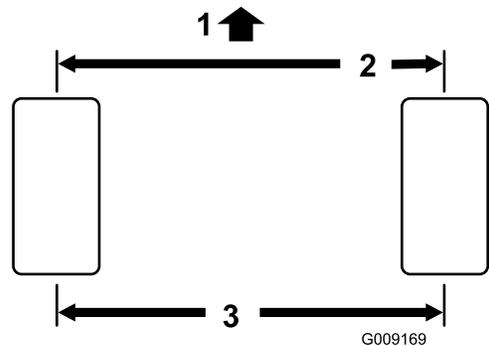

Figure 60
- Measure the center-to-center distance (at axle height) at the front and rear of the steering tires (Figure 60). The measurement must be within 0 ± 0.12 inch (0 ± 3 mm) at the front of the tire then at the rear of the tire. Rotate the tire 90 degrees and recheck the measurement.